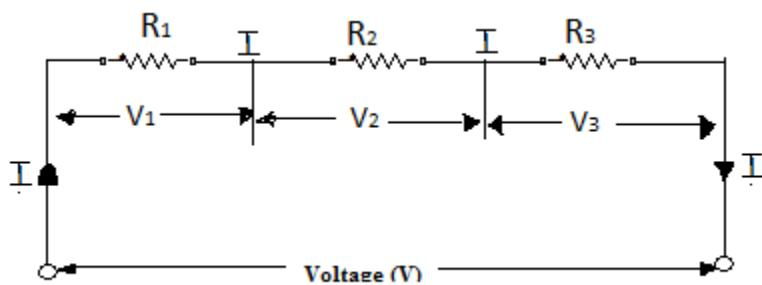

Fig 3.2. Resistances are connected in series
-Fig 3.2 shows the three resistance R_1 , R_2 , R_3 are connected in series across the supply